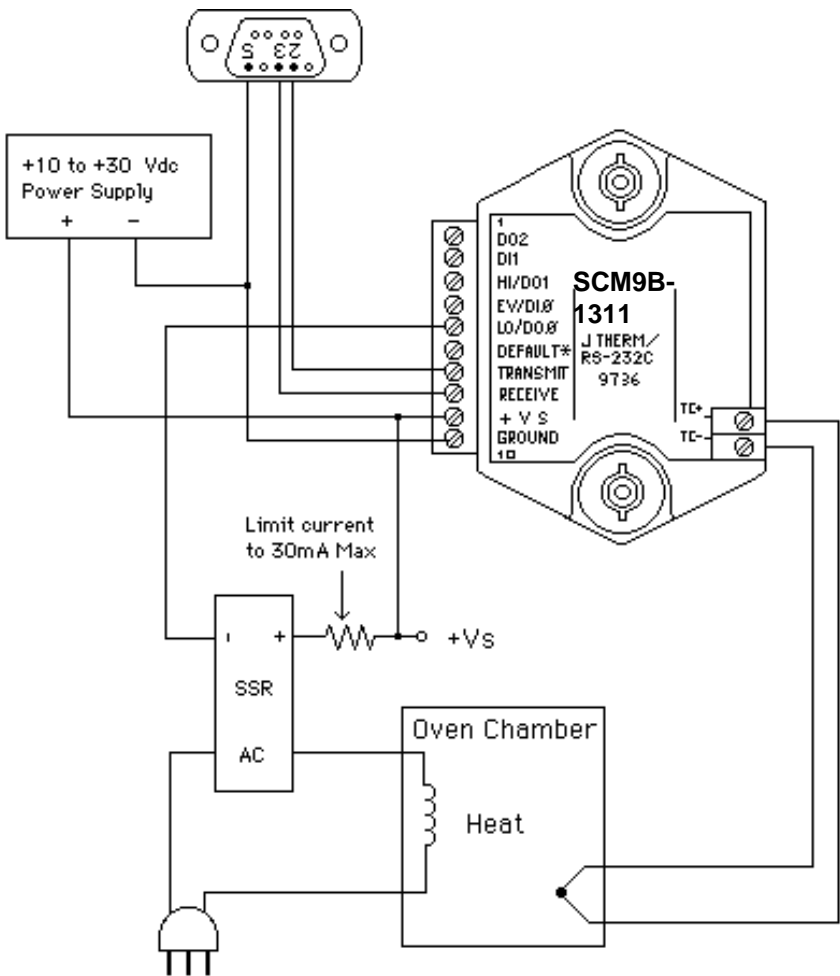

Figure 6.5 On-Off Controller
The simplest controller connection is to use a momentary alarm output to control the process. A typical application would have a temperature input module controlling a heater, as shown in Figure 6.5. To maintain a constant temperature, set the low limit to the setpoint desired and specify the alarm output to be momentary. Use the LO alarm output to control the heater. If the temperature measurement exceeds the low limit, the heater will be turned off. When the temperature goes below the limit, the LO alarm output goes on, turning on the heater. The negative feedback action of the control output will keep the temperature at the desired value. The high limit is still available to activate an alarm or shut down the system if
A typical example of a controller with hysteresis is illustrated in Figure 6.5. A J-Thermocouple input module such as a SCM9B-1311 maybe used to regulate the temperature of an oven. The thermocouple is used to sense the oven temperature. The LO alarm output controls a solid state relay (SSR) which in turn controls the oven heater. The Enable Alarms (EA) command must be used to activate the alarm outputs. In this case the desired regulated temperature is 100°C. The Lo alarm is set to 95°C in the latching mode with the LO command. The HI alarm command is used to set the upper limit to 105°C in the momentary mode. The total hysteresis is the difference between the two alarm values, or 10°C. In the steady state condition, the oven temperature will oscillate between 95°C and 100°C (ideally).